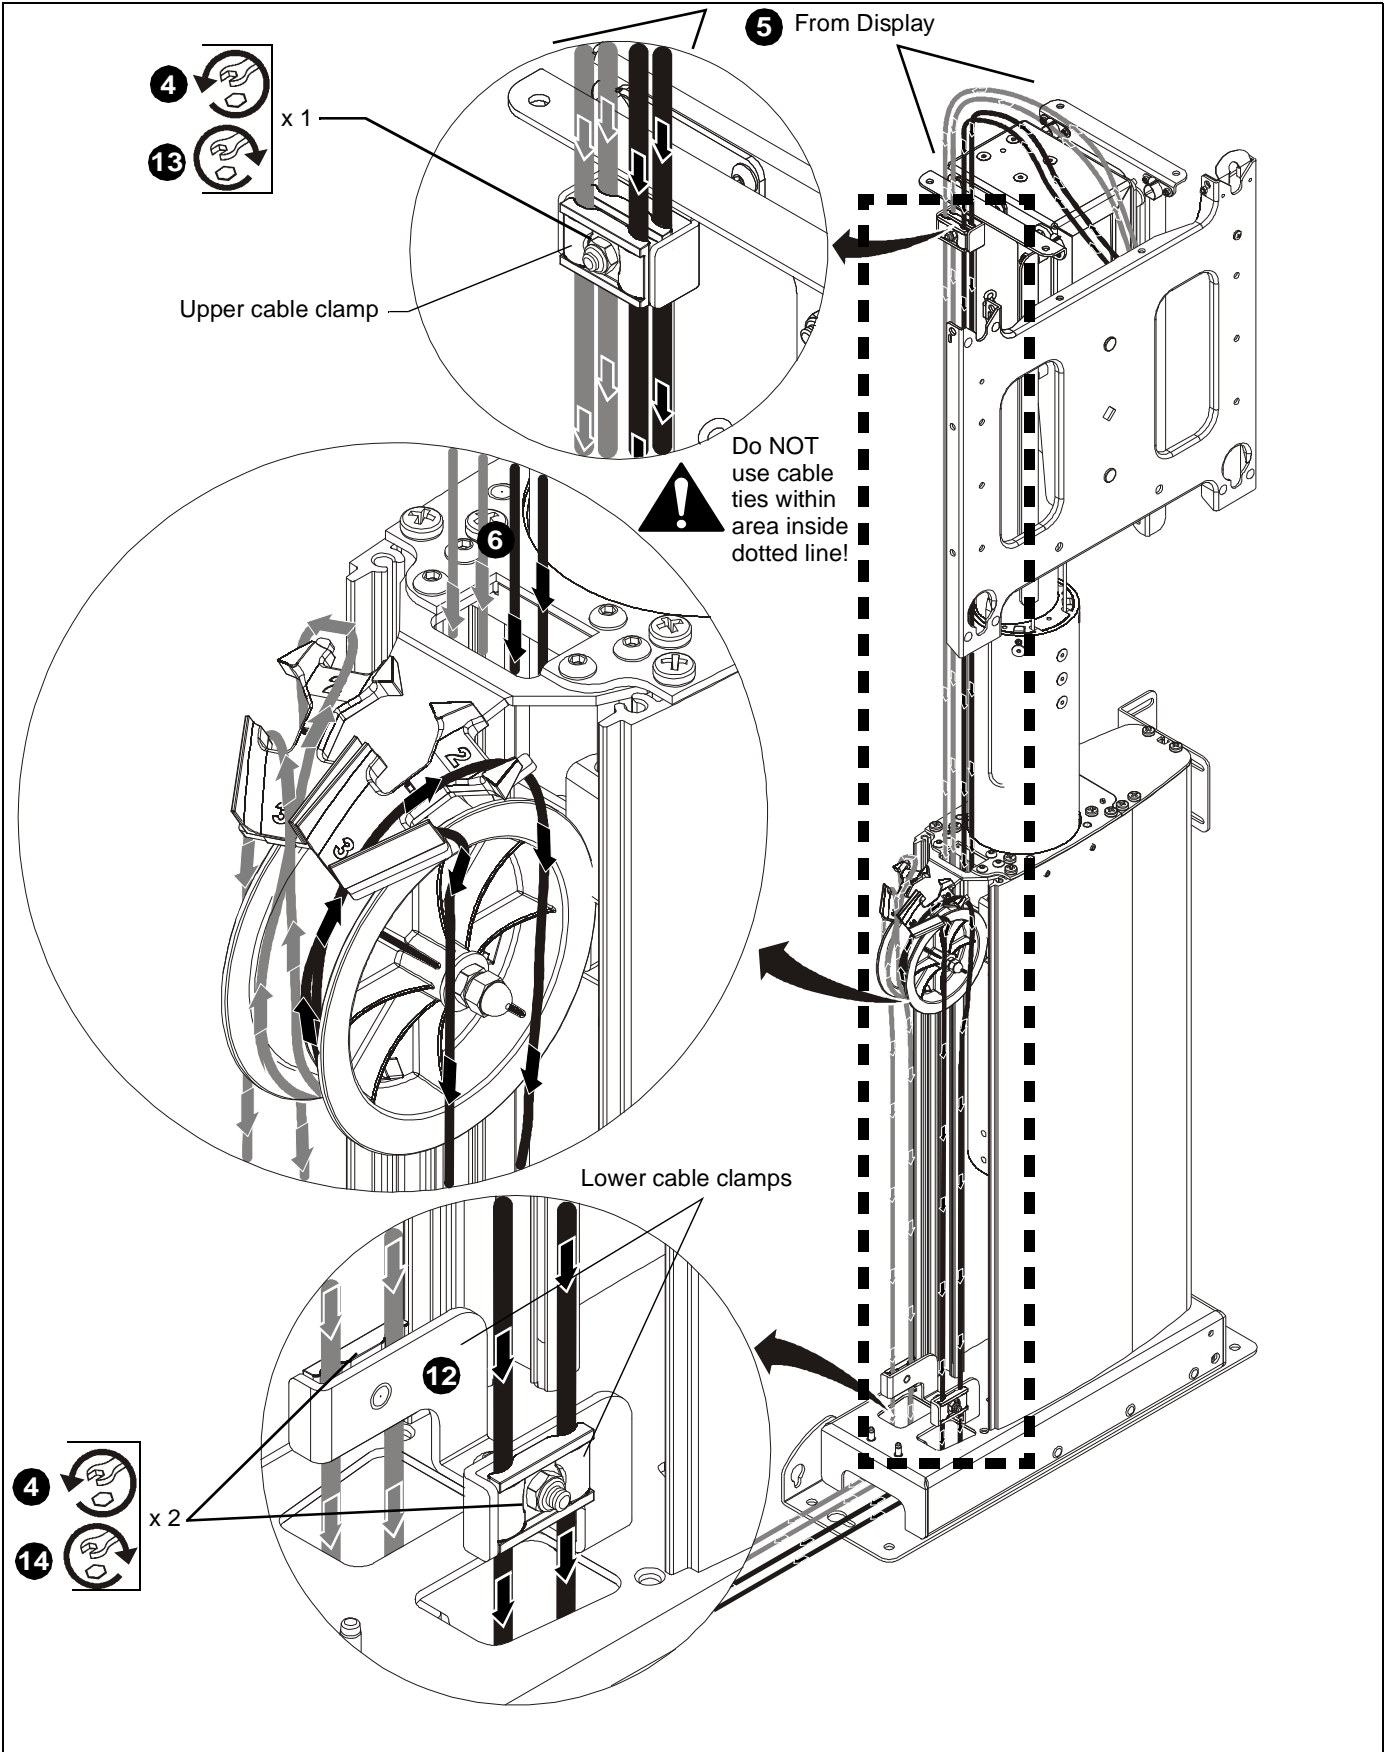
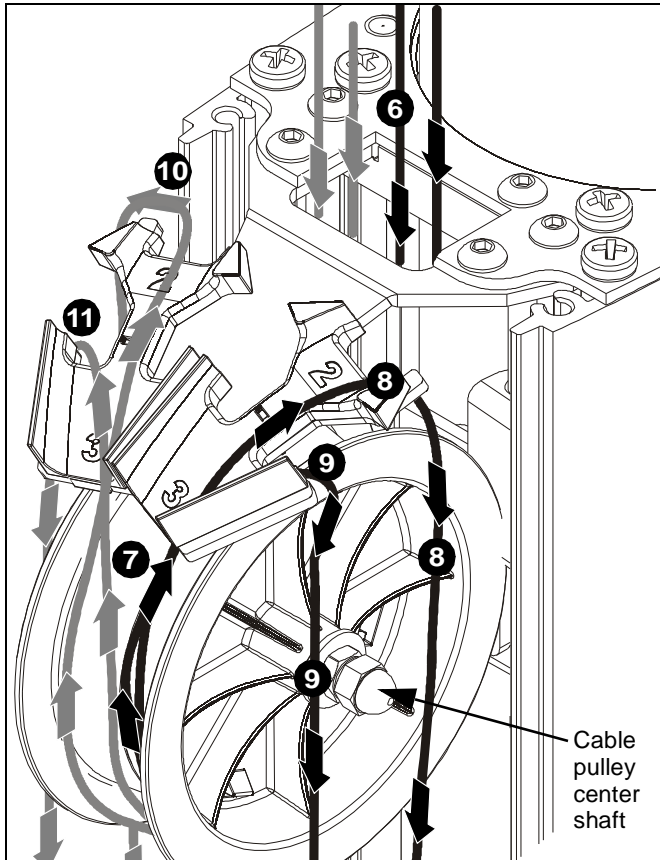

Figure 19
Figure 20
4. Loosen upper and lower cable clamps. (See Figure 19)
5. Route cable(s) down through upper cable clamp. (See Figure 19)
6. Route cable(s) down through opening **behind** cable pulley. (See Figure 19) and (See Figure 20)
- Ensure that cables on rear side of CM2 (gray) stay towards rear side of cable pulley. (See Figure 19) and (See Figure 20)
- Ensure that cables on front side of CM2 (black) stay towards front side of cable pulley. (See Figure 19) and (See Figure 20)
7. Route cables under cable pulley and up over **top** of cable pulley. (See Figure 19) and (See Figure 20)
8. Route one cable from front (black) cable clamps through the #2 cable opening and straight down next to the cable pulley center shaft. (See Figure 19) and (See Figure 20)
9. Route one cable from front (black) cable clamps through the #3 cable opening and straight down next to the other side of the cable pulley center shaft. (See Figure 19) and (See Figure 20)
10. Route one cable from rear (gray) cable clamps through the #2 cable opening and straight down next to the cable pulley center shaft. (See Figure 19) and (See Figure 20)
11. Route one cable from rear (gray) cable clamps through the #3 cable opening and straight down next to the other side of the cable pulley center shaft. (See Figure 19) and (See Figure 20)
IMPORTANT ! : Ensure that cables are not twisted! Cables from front (black) of upper cable clamp (See Figure 19) must be on front of cable pulley (See Figure 20) and front of lower cable clamp (See Figure 19). Cables from rear (gray) of upper cable clamp (See Figure 19) must be on rear of cable pulley (See Figure 20) and rear of lower cable clamp (See Figure 19).
12. Continue routing cable(s) down through lower cable clamps. (See Figure 19)
14. Starting at upper cable clamp and working downward, remove slack from all cables and tighten lower cable clamps. (See Figure 19)